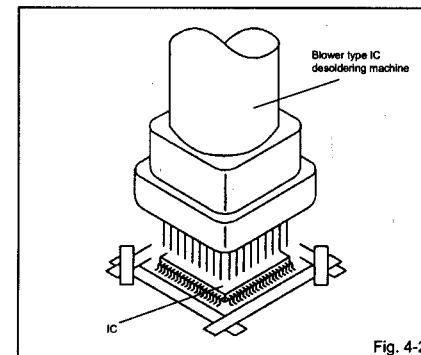

Fig. 4-2
- Heat the IC leads using a blower type IC desoldering machine. (Refer to Fig. 4-2.)